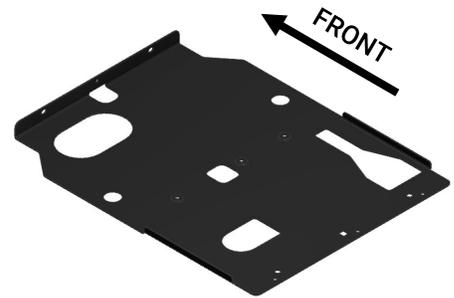

Figure 3
- C. Orient the skid plate with the vertical flange with (3) holes at the front of the vehicle (Fig 3).
- D. Prepare (6) button head bolts [3X276] underneath the vehicle.
- F. Reinstall the (3) OEM bolts removed in Step B through the skid plate and the module carrier. Hold the skid plate upward against the vehicle and tighten these (3) bolts.
- G. Using a T40 Torx driver tighten the (6) bolts that were loosely installed in Step E.